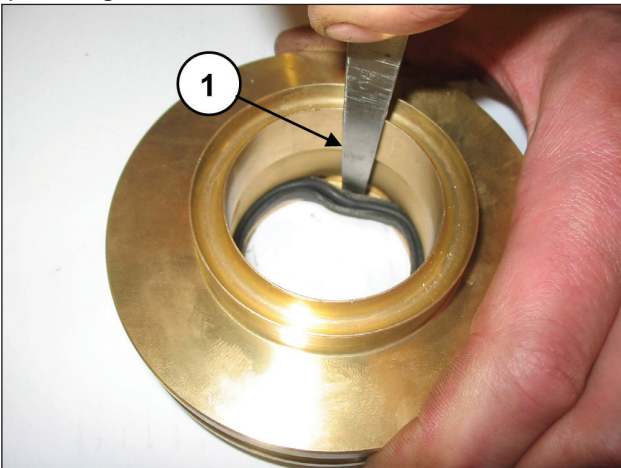

Fig. 133
To remove the low pressure seal, use a thickness gauge or another tool which will not damage the seal support housing (pos. ①, Fig. 133).